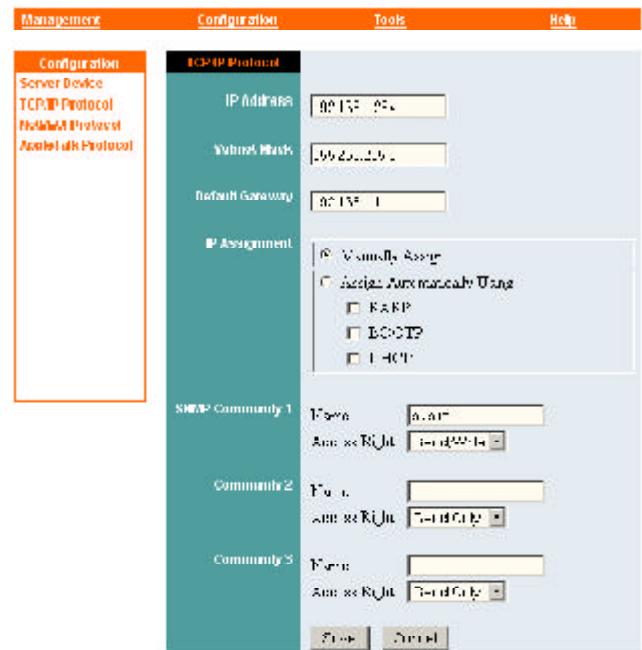

Fig. 3.4
Step 5 Click on **TCP/IP Protocol** under **Configuration**. See *Fig. 3.4*